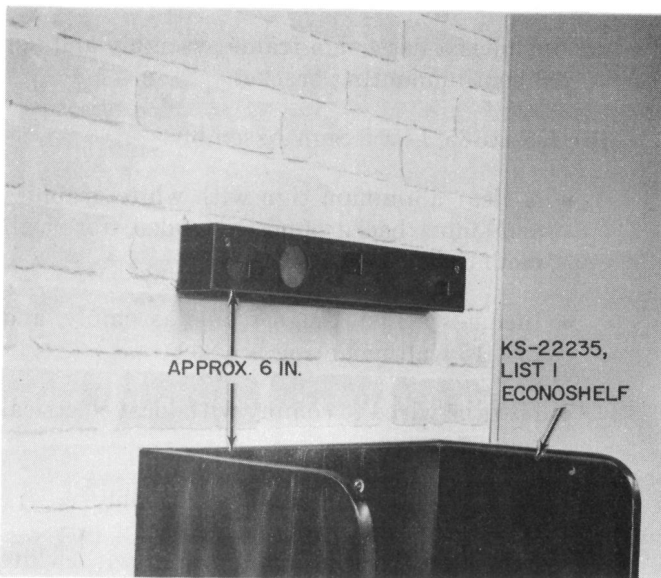

Fig. 14—KS-19681, List 13 Wall Mounting Bracket
2.15 A KS-19681, List 13 Wall Mounted Bracket (Fig. 14) should be installed and used with all KS-19681 list signs.